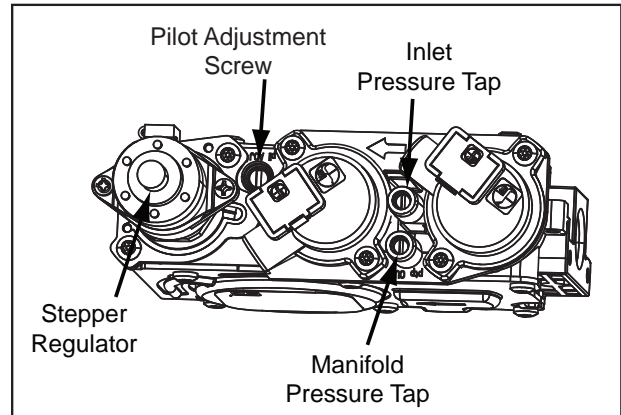

Figure 28: Gas Valve Diagram
- a) Remove the existing stepper motor using a T20 screwdriver (see Figure 28).
10. Light the pilot and recheck for leaks in the aluminum pilot line. If a leak is evident, contact your ENVIRO dealer for a pilot line replacement. **WARNING: DO NOT ATTEMPT TO FIX THIS LINE, IT MUST BE REPLACED IF DAMAGED.** The pilot should properly cover the flame sensor. If adjustment is necessary, turn the adjustment screw in the valve (see Figure 28) clockwise to decrease and counter-clockwise to increase until the correct flame is achieved (see Figure 16).